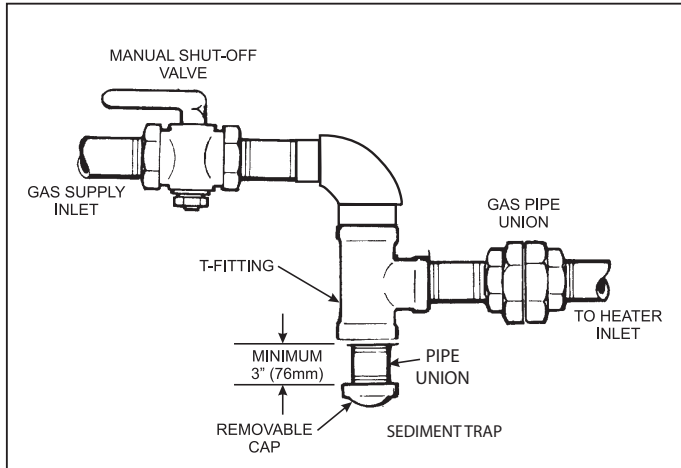

Figure 11. Manual Shut-off Valve and Sediment Trap
- Install a sediment trap and union ahead of the gas controls and outside the heater panels, as shown in Figure 11. Do not use a restrictive gas cock. **DO NOT USE FLEXIBLE GAS PIPING**, it will restrict the gas flow to the heater.